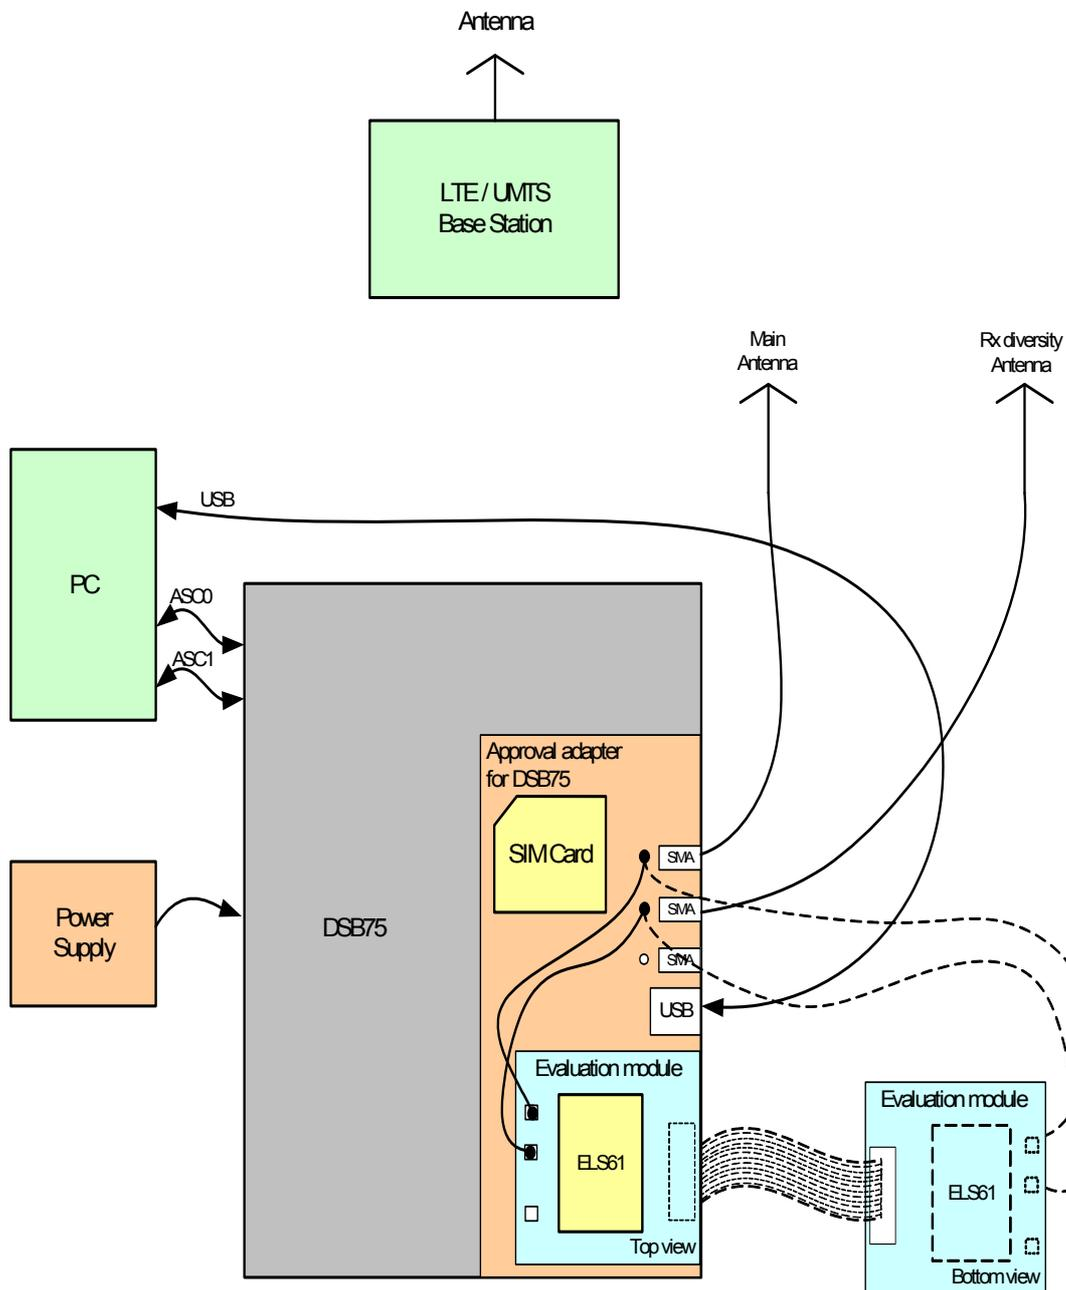

Figure 54: Reference equipment for Type Approval
1. For RF performance tests a mini-SMT/U.FL to SMA adapter with attached 6dB coaxial attenuator is chosen to connect the evaluation module directly to the UMTS test equipment instead of employing the SMA antenna connectors on the ELS61-AUS-DSB75 adapter as shown in Figure 54. The following products are recommended: